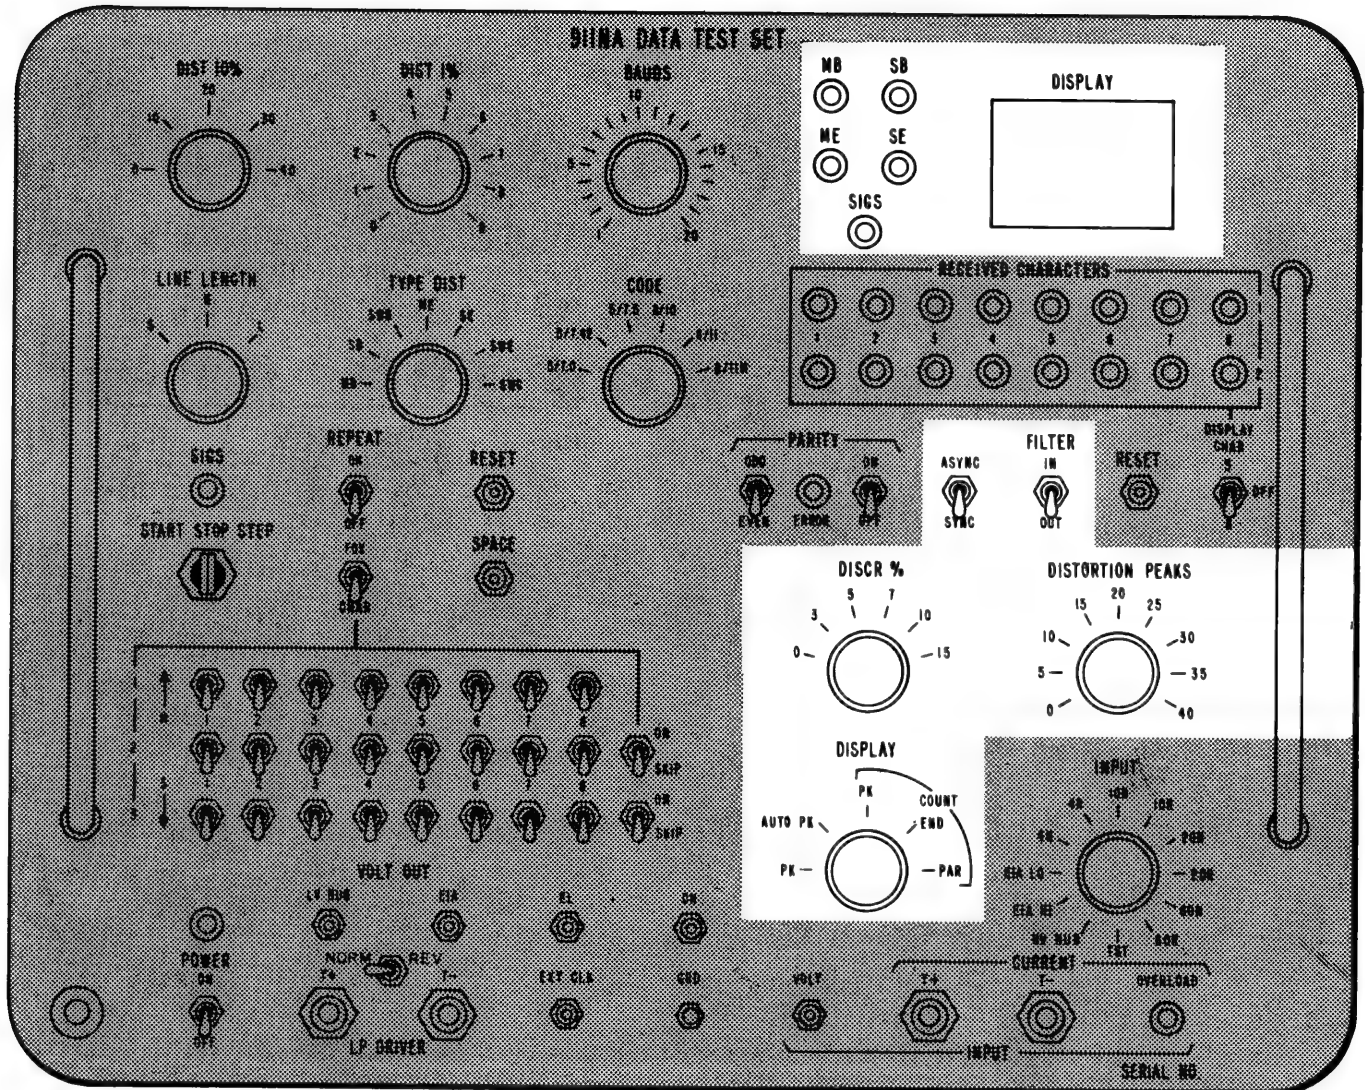

Fig. 16—Location of Switches Used in Measuring Received Signals and Displays
3.33 Figure 16 shows the switches that are used to measure the amount, and the LEDs used to display the type, of distortion received by the DMS.